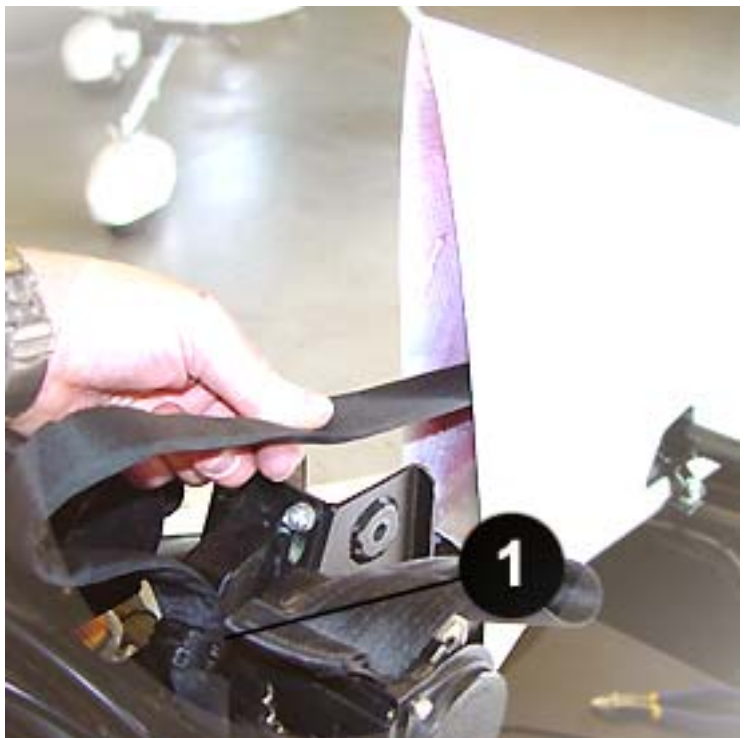

Figure 2-22
- 2.14 Pull the 84" Harness back through the fairing so that it is straight and slightly tight, as shown in Figure 2-22.